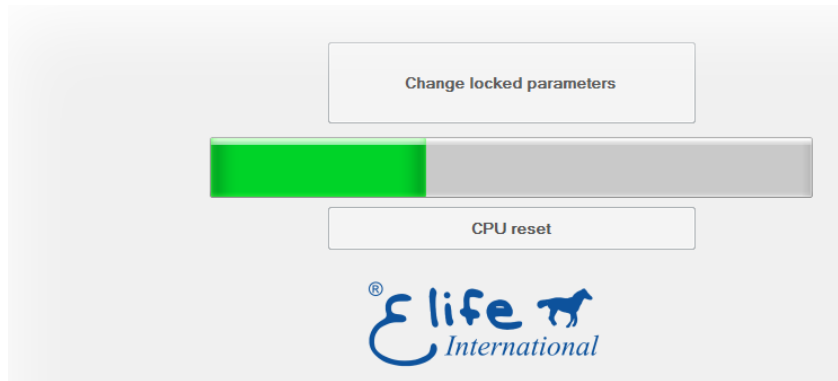

Figure 3.2: When the progress bar is running, Telemetry Panel downloads data from .cfg file to UNIDRIVE.
3. Select the desired .cfg file and wait for the progress bar to get completely green (Figure 3.2).